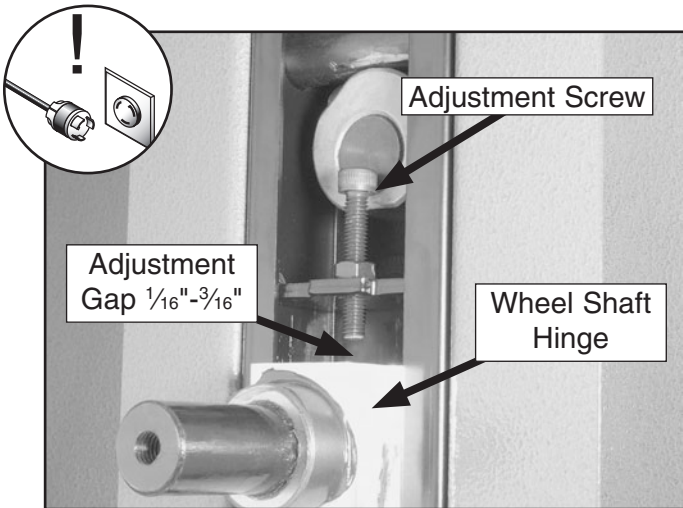

Figure 60. Tension lever adjustment components.
5. Turn the adjustment screw shown in **Figure 60** until the gap between the screw and the wheel shaft hinge is $\frac{1}{16}$ " - $\frac{3}{16}$ ".